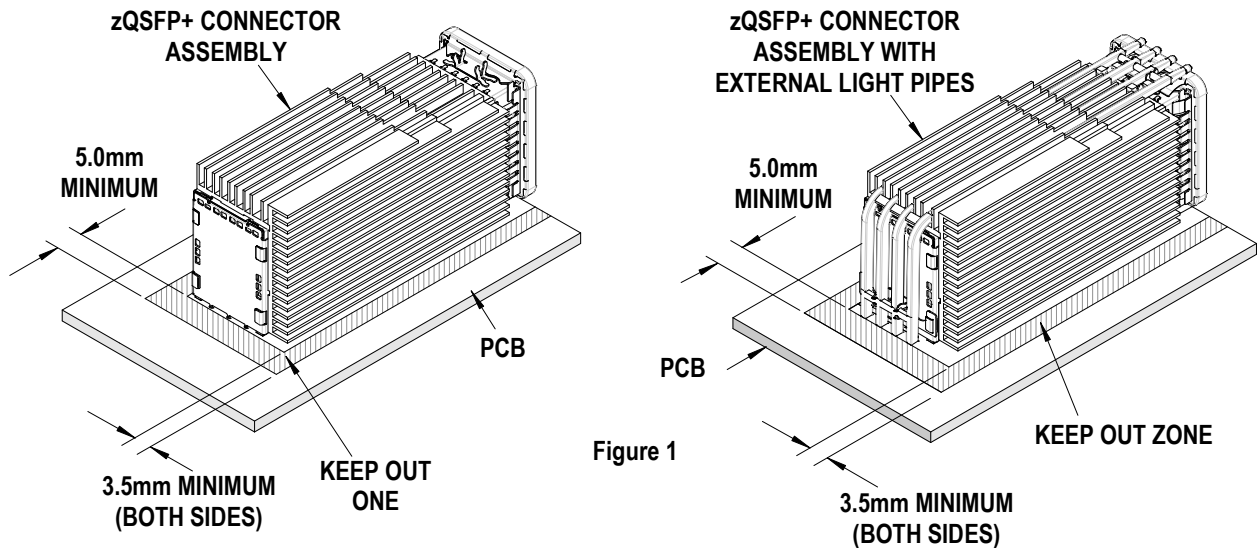

Figure 1
2. These tools require a "Keep Out Zone" around the connector free of components. The rear of the connector should be .197" (5.0mm). The right and left sides should be .14" (3.5mm). See Figure 1.